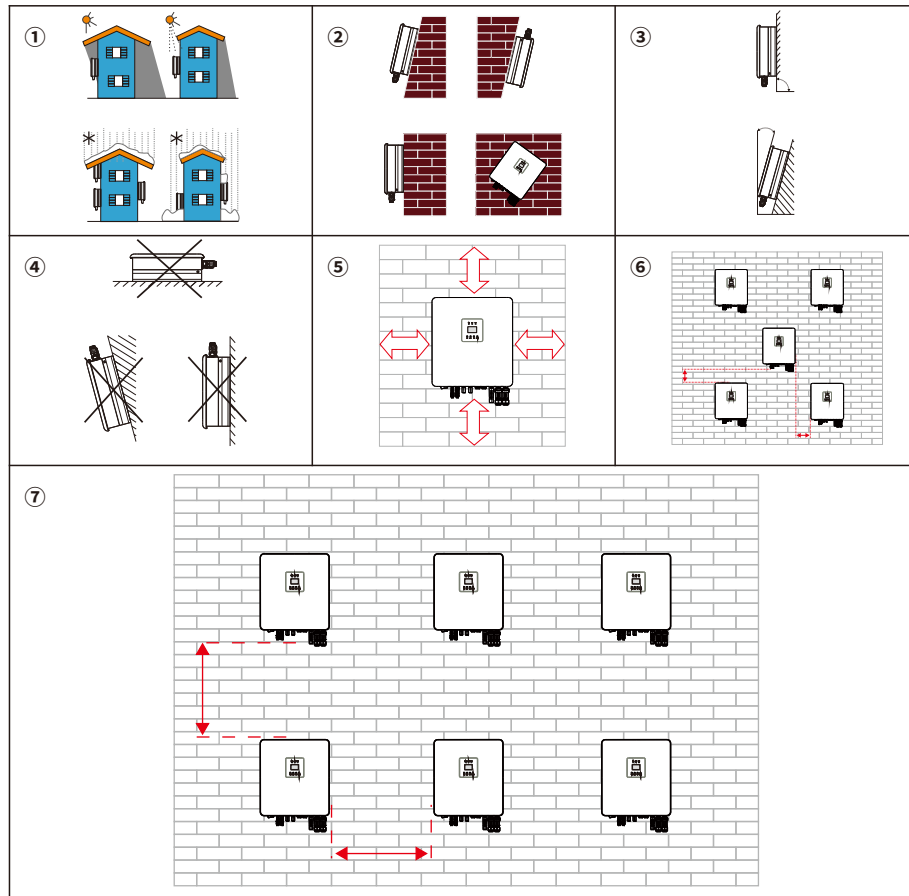

Figure 6: Installation position
Attention: When installing multiple inverters, if the installation method is as shown in Figure 6 ⑥, the horizontal distance between the top and bottom is 300mm, and the horizontal distance between the left and right is 200mm; If the installation method is like Figure 6 ⑦, the horizontal distance between the top and bottom is 1000mm, and the horizontal distance between the left and right is 500mm.